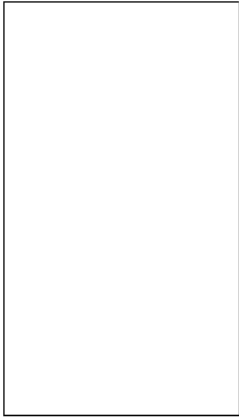

Figure 4-2: A rectangle drawn by using absolute coordinates
3.  Choose Zoom Out from the Zoom flyout on the Standard toolbar. If you still cannot see the entire rectangle, choose Zoom Out again until you can see it. Your picture should look like Figure 4-2.